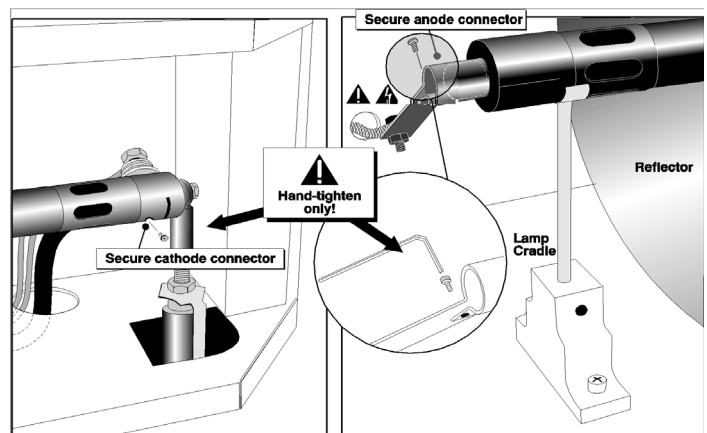

Figure 6-2 Secure bulb at cathode (-) and anode (+) connectors
- a. Loosen set screws from negative/cathode (rear, 7/64") and positive/anode (front, 3/16") lamp connectors. These screws are shown in **Figure 6-2**. **NOTE:** Be sure to apply minimal torque and **DO NOT STRESS** the quartz tube.
- Hand-tighten set screws in both negative and positive lamp connectors (**Figure 6-2**). **Important!** *Proper electrical contact prevents resistance in the lamp connectors.* If you accidentally touch the quartz body of the lamp with your bare hands, clean it as described in Section 6.3 Maintenance and Cleaning.